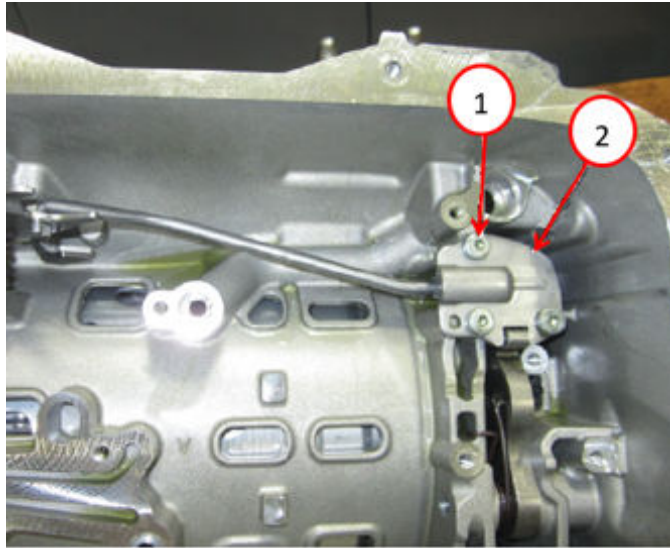

Fig. 18
26. Remove the input/output shaft and P4 annulus drum assembly from the case Fig. 18.